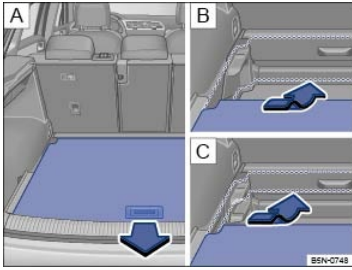

Fig. 159 In the luggage compartment: Adjusting the height of the variable luggage compartment floor.
- Grasp the recessed handle, lift the luggage compartment floor, and pull it rearward out of the guides on the sides of the luggage compartment ⇒ Fig. 159 **A**.
- Insert the luggage compartment floor into the guides at the required height and push it forward ⇒ Fig. 159 **B** or **C**.